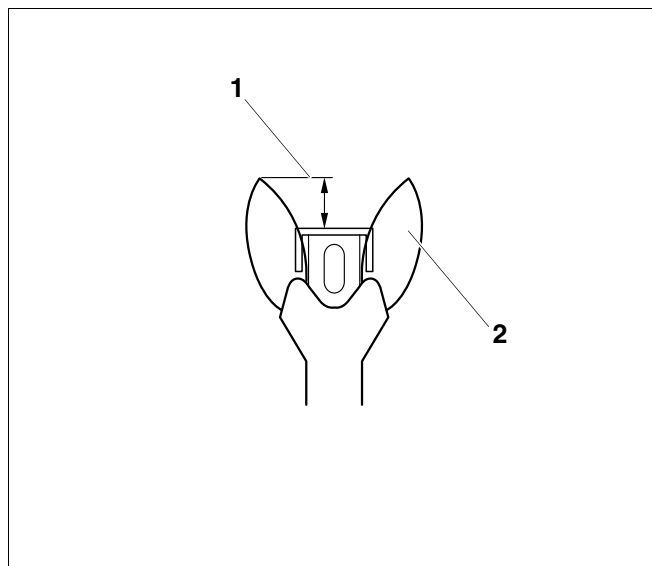
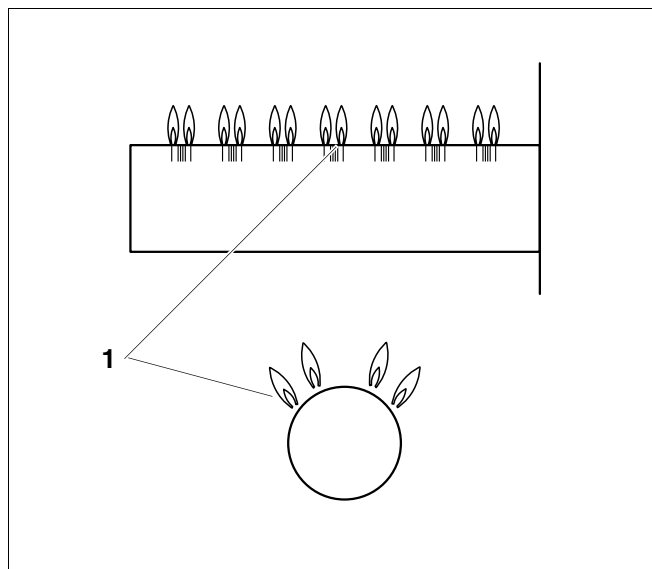

Fig. 31 Correct pilot flame setting
Fig. 32 Main burner
21. Test the safety switch by closing the gas shut-off. The main burner flame (→ Fig. 32) and the ignition flame (→ Fig. 31) are extinguished. After six (6) seconds at the most the main gas solenoid valve on the gas fitting must close with an audible noise.